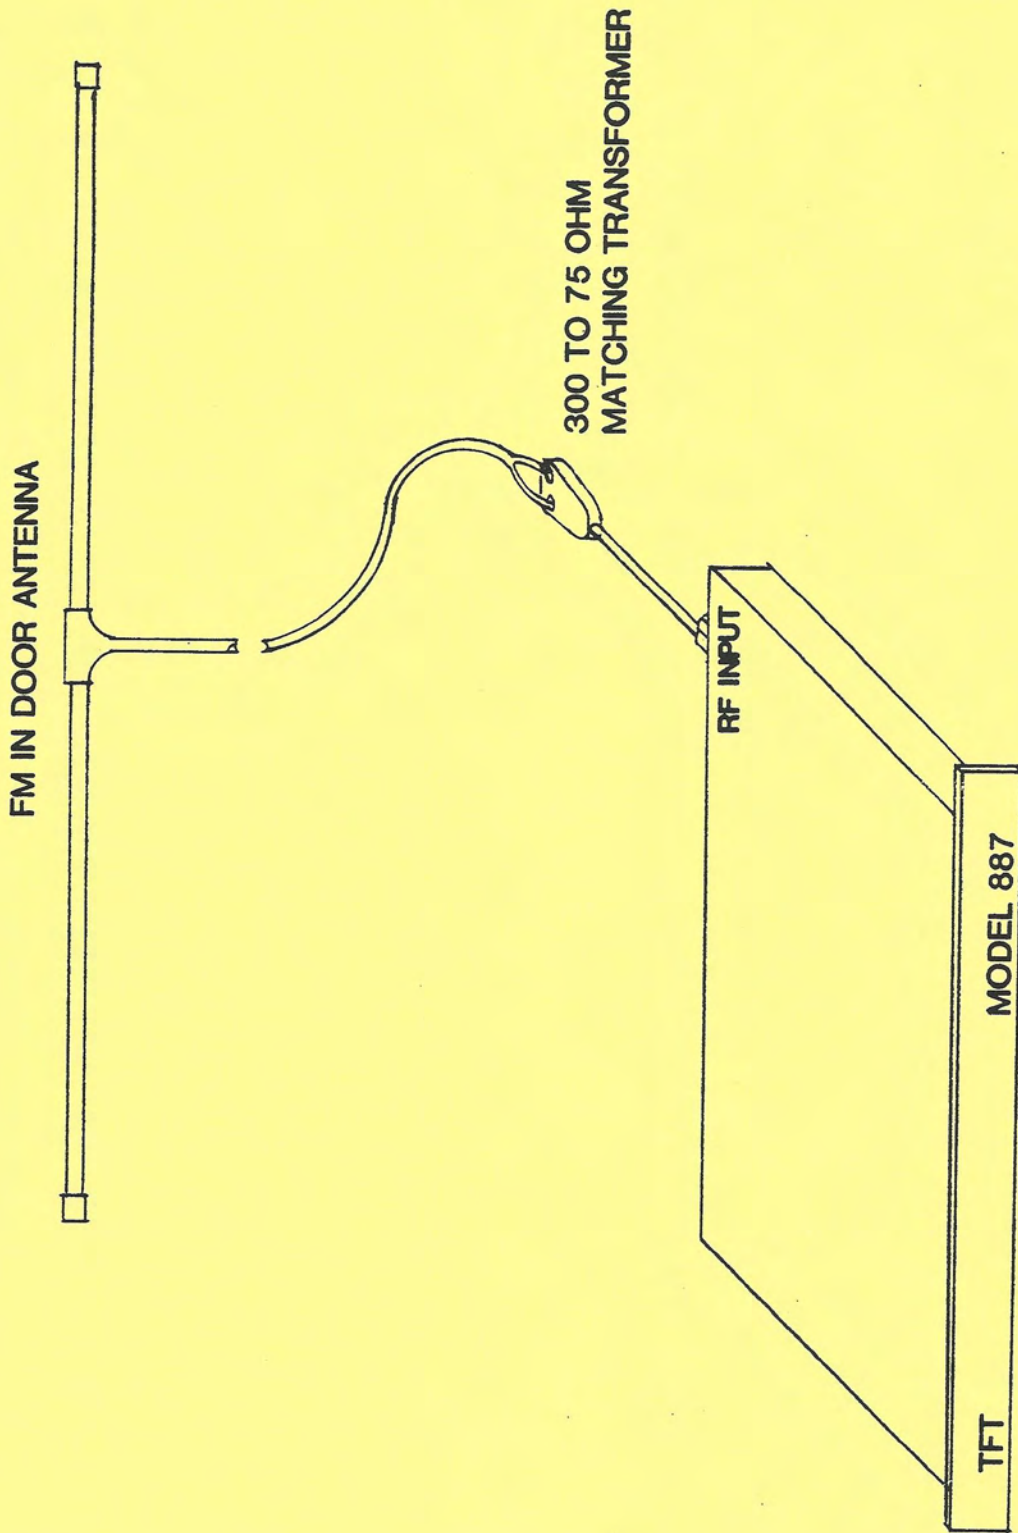

FIG. 2-3
- Add Fig. 2.3 after Fig. 2.2
For indoor and moderate strong area, the supplied FM indoor antenna and 300 Ω to 75 Ω matching transformer can be used. Refer to Figure 2-3 FM antenna matching installation diagram at the back of this section for connection.